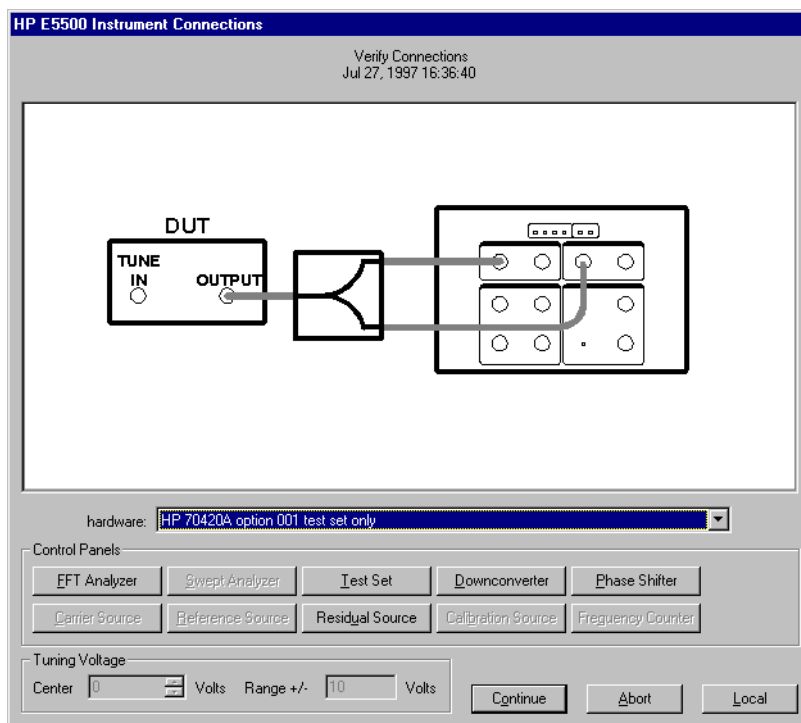

Figure 9-10 Setup diagram for the Agilent 8349A Amplifier Measurement Example
- 3 When the **Connect Diagram** dialog box appears, click on the hardware down arrow and select your hardware configuration from the pull-down list. Refer to Figure 9-10.